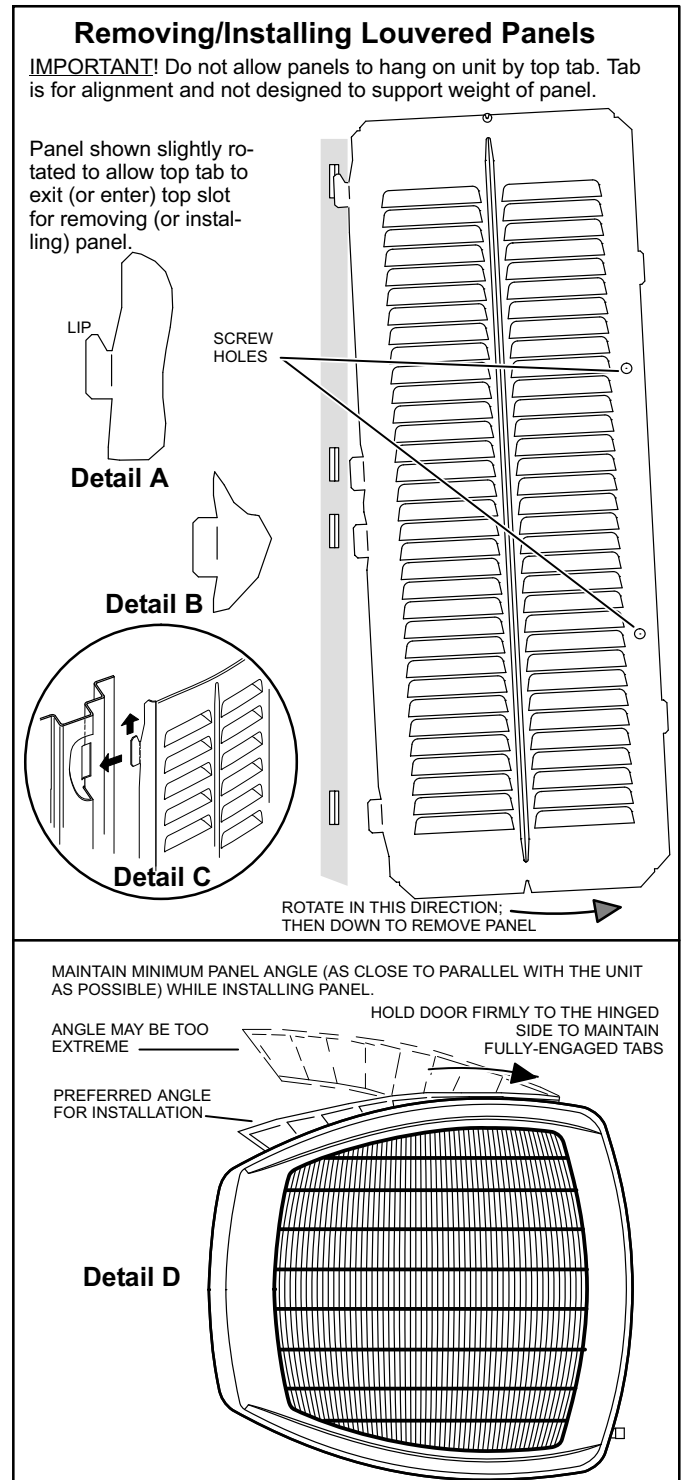

FIGURE 2
- 2-. **Hold the panel firmly throughout this procedure.** Rotate bottom corner of panel away from hinge corner post until lower 3 tabs clear the slots (see figure 2, Detail B).
- 3-. Move panel down until lip of upper tab clears the top slot in corner post (see figure 2, Detail A).
Position and Install Panel—Position the panel almost parallel with the unit (figure 2, Detail D) with the “screw side” as close to the unit as possible. Then, in a continuous motion:
Slightly rotate and guide the LIP of top tab inward (figure 2, Details A and C); then upward into the top slot of the hinge corner post.